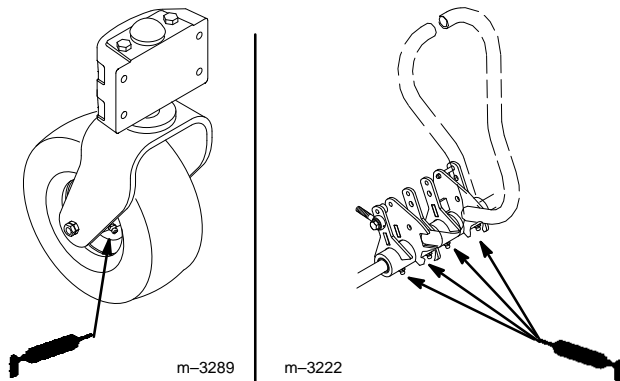

Figure 20
1. Lubricate the castor wheel bearings and motion control lever pivots until grease begins to ooze out of the bearings (Fig. 20).